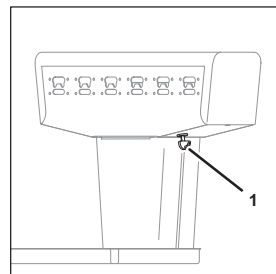

Fig. 7
2. Turn the key switch (Fig. 7/1) to position "I".